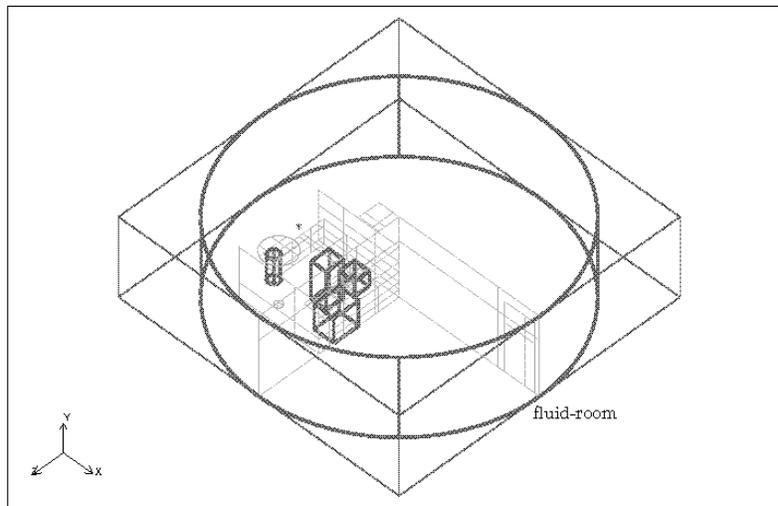

Figure 4.6: Close-Up View of the Room Block Object
- (a) Use the right mouse button to zoom out of the CAD geometry representing the room and the middle button to translate the view, as shown in Figure 4.6.
- ii. Using the left mouse button, click on the top, the bottom, and the side of the room (shown in Figure 4.6) in the graphics window.